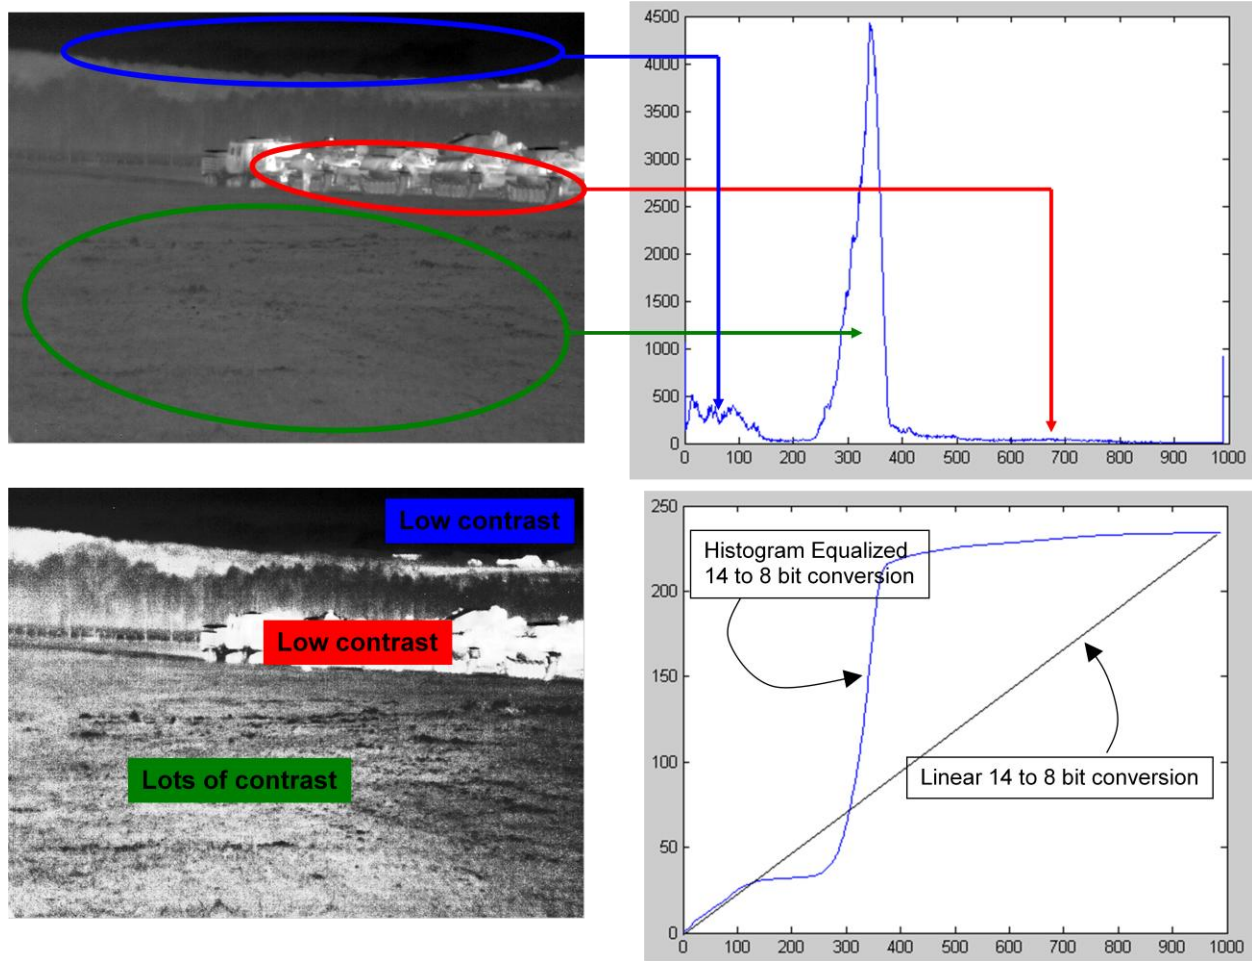

Figure 5: Image Transform Table for Linear and Plateau algorithms
- Figure 5: Image Transform Table for Linear and Plateau algorithms 7